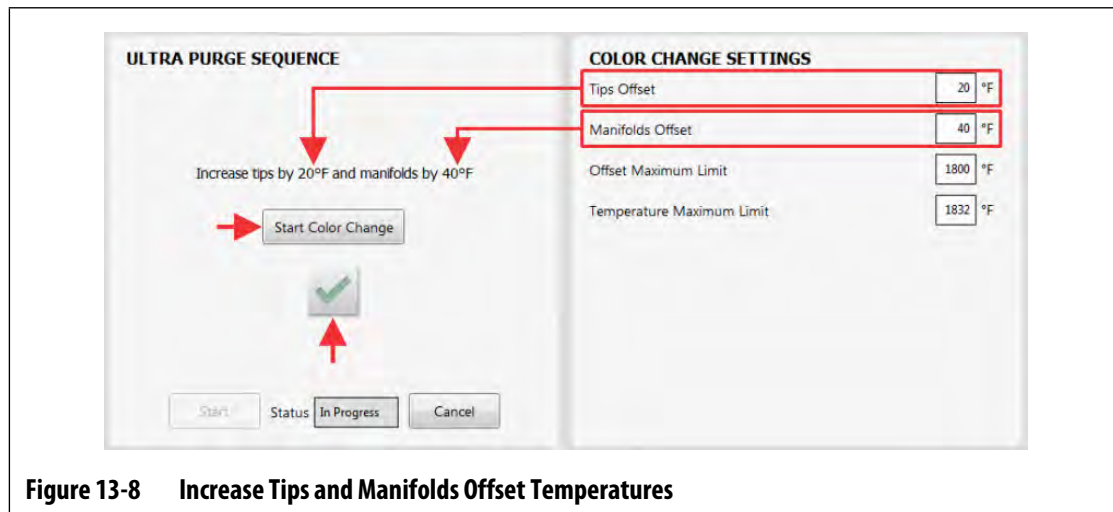

Figure 13-8 Increase Tips and Manifolds Offset Temperatures
7. Increase the tips and manifolds offset temperatures, as necessary (refer to Figure 13-8).